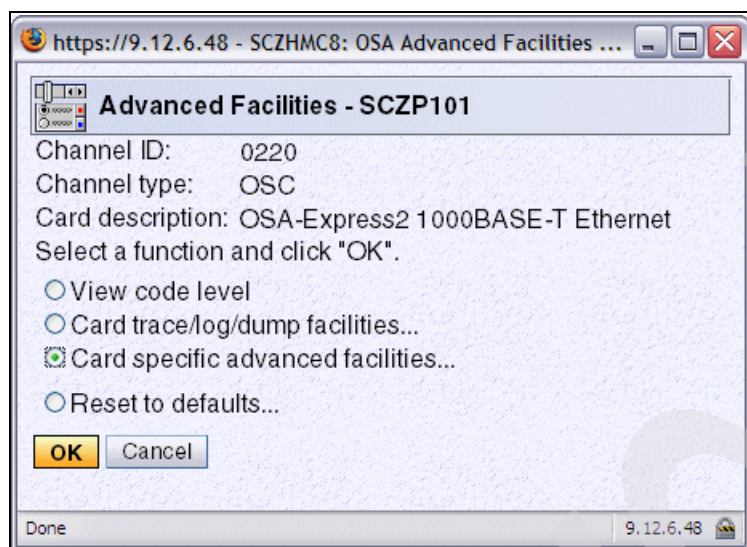

Figure 4-39 HMC - OSA Advanced Facilities (Card specific)
5. Select the radio button **Card specific advanced facilities...** and click **OK** (Figure 4-39).